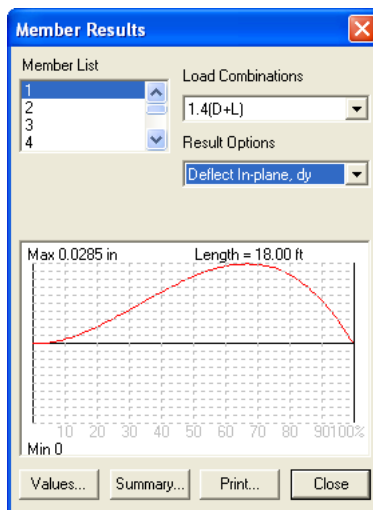

Figure 3-41 Member Results dialog box
- From the **Analyze** menu, select **Member Results**. The box of Figure 3-41 appears.